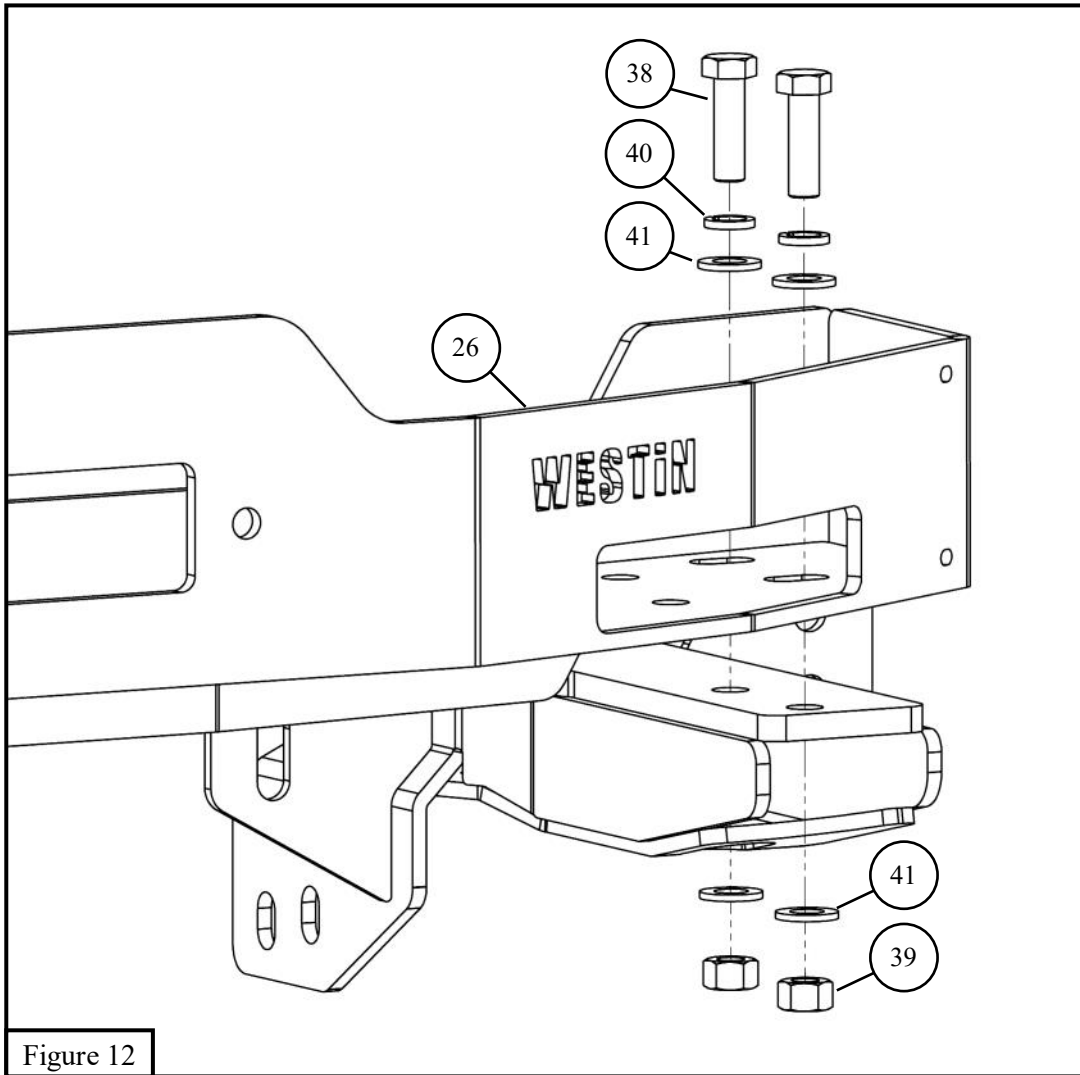

Figure 12
21. Install the winch tray (**item 26**) onto the winch tray brackets using the M12 hardware (**items 38-41**). See **Figure 12**.